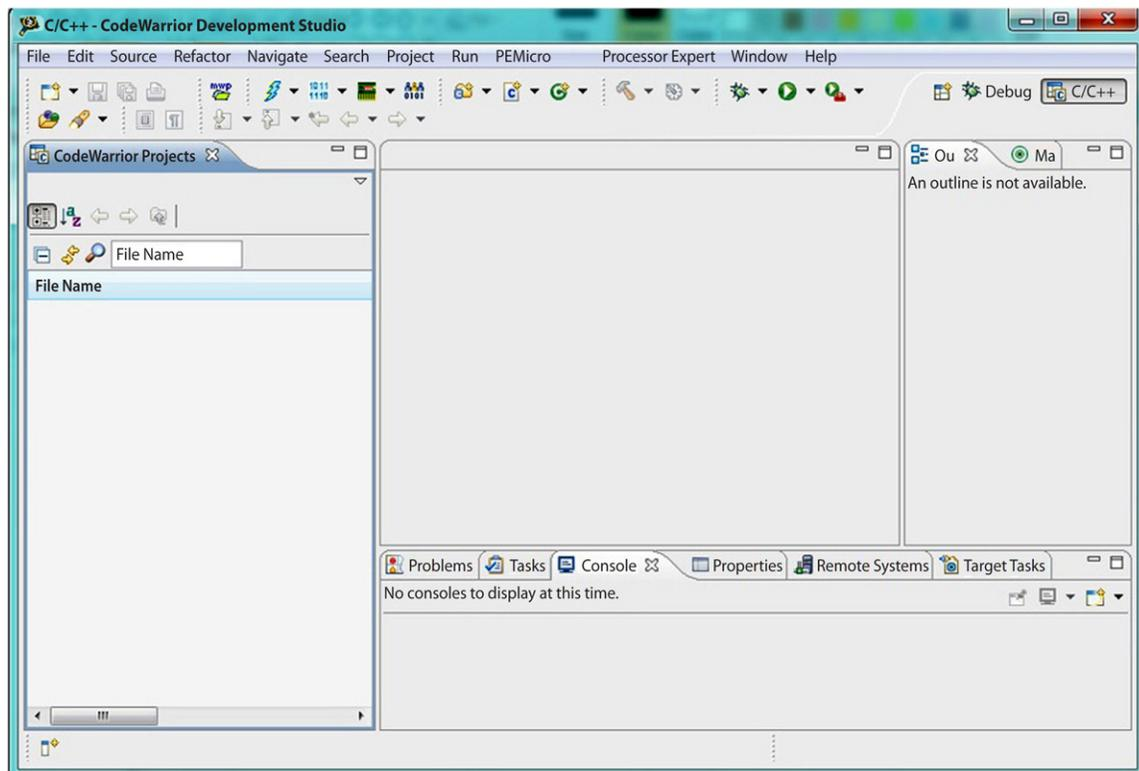

Figure 1. New project
2. Select a work space with the selected project in the work space launcher window or create a new project in a work space. Figure 1 is the initial CW window.